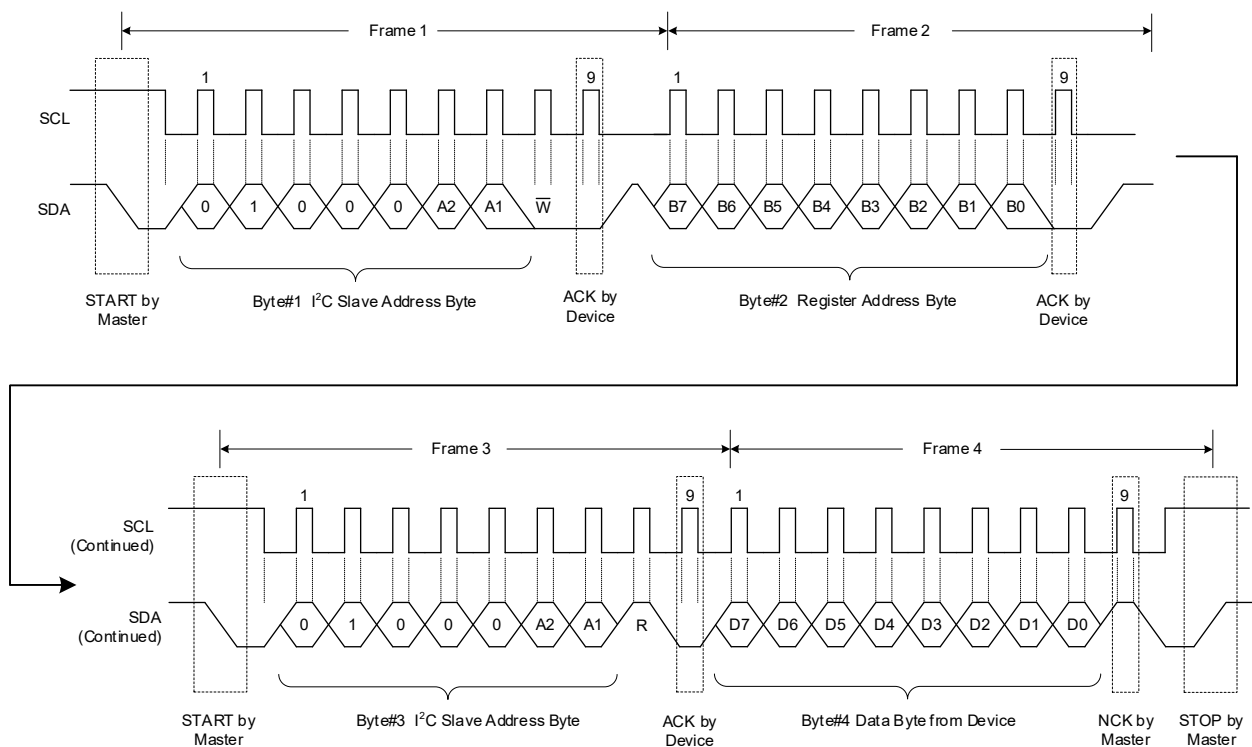

Figure 15. A Single Read Transaction
**READ:** If the master wants to read a single register (Figure 15), it sends a new START condition along with device address with  $\overline{R/W}$  bit = 1. After ACK is received, master reads the SDA line to receive the content of the register. Master replies with NCK to inform slave that no more data is needed (single read) or it can send an ACK to request for sending the next register content (multi-read). This can continue until an NCK is sent by master. A STOP must be sent by master in any case to end the transaction.